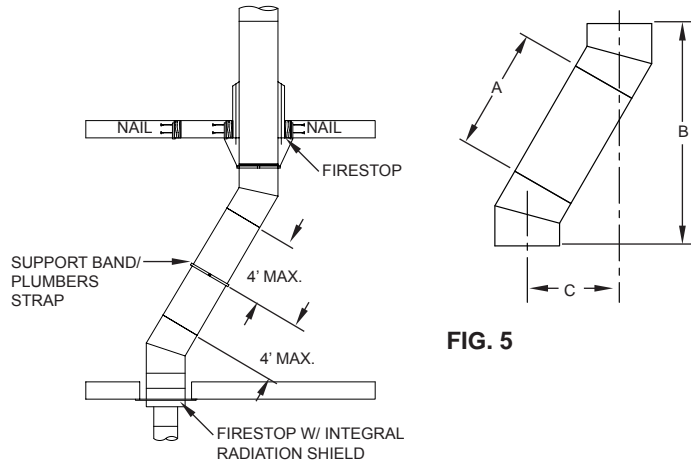

FIG. 4
- Attach the elbow to the chimney pipe or other support part. Using the offset chart, add chimney sections between elbows. A support band or plumbers strap is required every 4 foot interval between elbows to support the load as shown in FIG. 4. Attach the upper elbow to bring chimney back to vertical. See Table 2 and FIG. 5 for offset combinations.